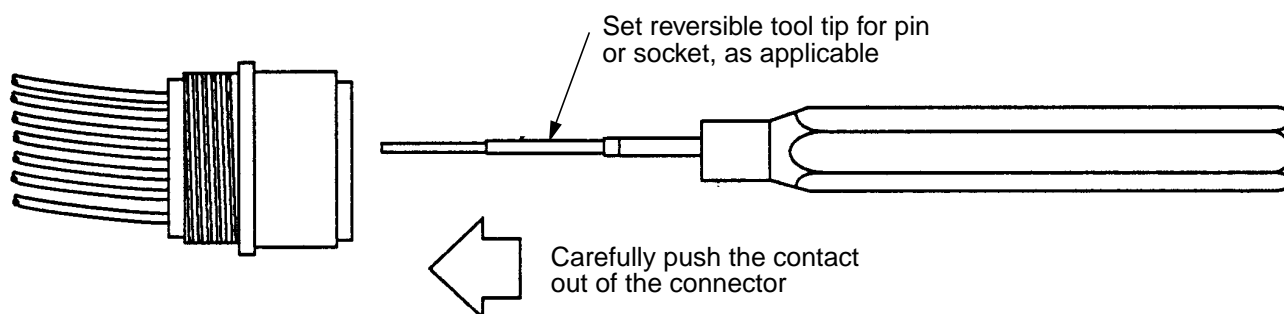

Figure 16 - Removal of Front Release Contacts using a CET Extraction Tool
- Step 3. Set the reversible tool tip for pin or socket contact extraction, as applicable (see Figure 16).